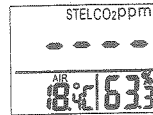

Fig.7
2. It takes at least 5 minutes to calculate STEL and TWA. The display shows "----" (Fig.7) during the first 5 minutes from power on.